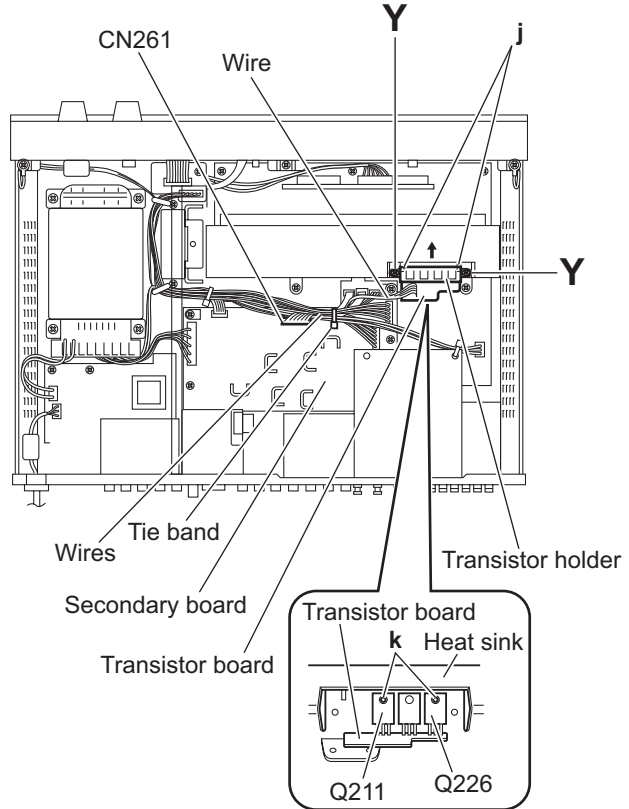

Fig.24
3.18 Removing the transistor board (See Fig.24)